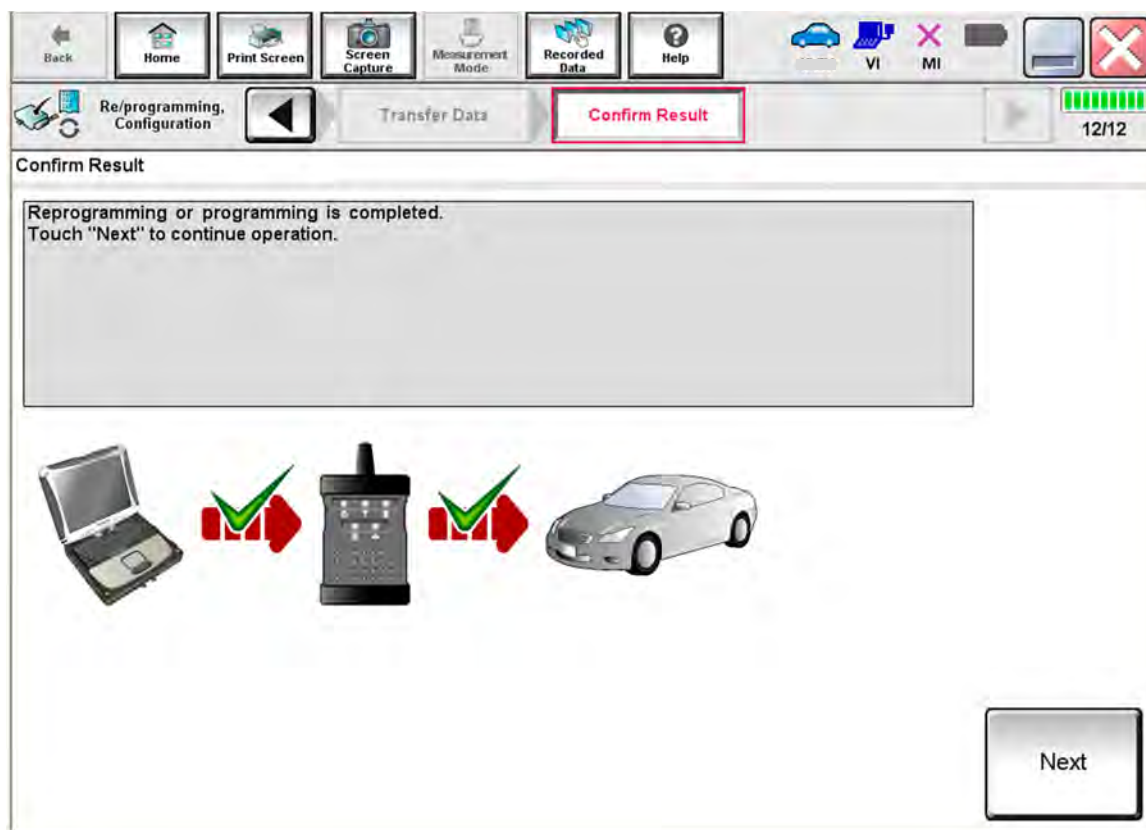

Figure 9
- If the screen in Figure 9 displays, reprogramming is complete. Skip to step 22 on page 14.
- If the screen in Figure 9 does not display (indicating that reprogramming did not complete), continue to step 21 on page 12.